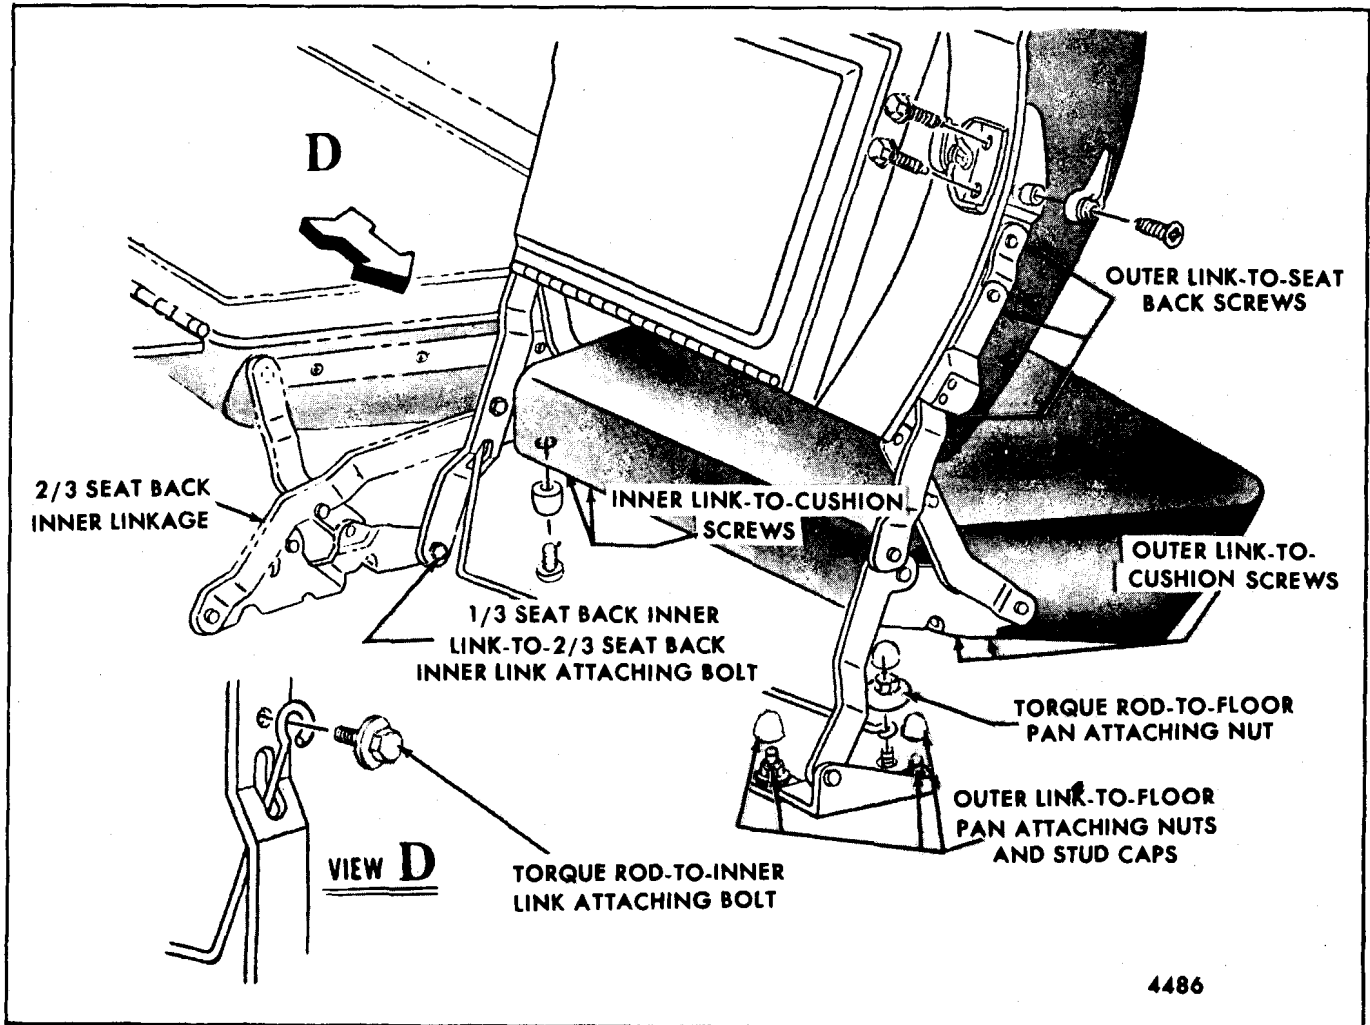

Fig. 14-90-Folding Second 2/3 Seat Back Inner Linkage and 1/3 Seat Back Outer Linkage - "B" Body Three-Seat Station Wagon
To remove the right side second seat cushion (1/3 seat) on three-seat station wagon styles, place the seat assembly in the forward position. From under both rear and front of seat cushion remove bolts securing cushion assembly to inner and outer rear linkage (see Fig. 14-90) and to front linkage; then, remove cushion assembly.
2. Loosen 1/3 seat torque rod-to-floor pan attaching nut (see Fig. 14-90). Move 1/3 seat forward to a
1. Loosen torque rod-to-floor pan attaching nut (Fig. 14-90). Move 1/3 seat forward to a position where torque is relieved from rod; then, remove torque rod nut.
2. Move 1/3 seat to full forward position, and remove bolt securing 1/3 seat back inner link to 2/3 seat back inner link (See Fig. 14-90).
4. Remove 1/3 seat back outer linkage-to-floor pan stud caps and attaching nuts (Fig. 14-90); then, remove seat assembly, including all attached linkages, from body.
Linkage assemblies may be removed from 1/3 seat, as required. Refer to Figure 14-90 and 14-91 for 1/3 seat linkage attachments.
1. Fold right 1/3 seat back to a position where seat back outer linkage-to-seat back screws, indicated in Figure 14-90, are accessible; then, remove screws.
2. Remove seat back outer linkage-to-seat cushion screws (Fig. 14-90).